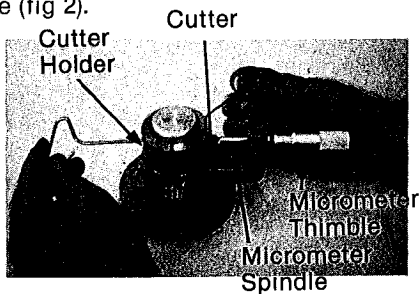

Fig 2 Setting Cutter in Cutter Holder
6. Push the Cutter against the Micrometer spindle. The reading should be made when the tip of the Cutter makes contact with the center of the spindle. Tighten both set screws to lock the Cutter in place (fig 2).